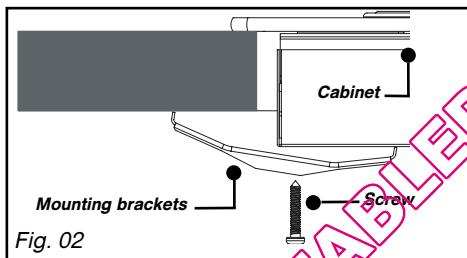

Fig. 02
your hob, and to ensure there are no leaks between the unit and the work surface, make sure that you use the sealant strip provided (Fig. 02).
– If you wish, you can immobilise the hob using the four mounting brackets delivered with a screw (Fig. 02) to attach them to the four corners of the housing. You must use the holes provided for this purpose, according to the diagram above (Fig. 01).